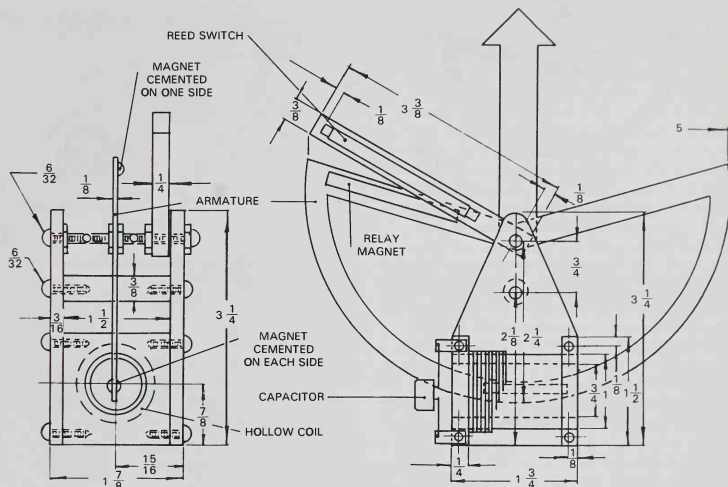

Fig. 18-32. Dimensions of wig-wag motor.
Sliding brushes or contacts could be used, but this one uses a **REED RELAY** which is activated by a small permanent magnet on the swinging pointer. Each time the magnet passes the relay, it closes the coil circuit and pulls the core downward and into the coil. To improve the action of the motor we used permanent magnets for the moving core in the coil. Be sure the polarity is correct. The magnetic field of the coil must attract the magnets. See Fig. 18-32 for the dimensions.
9. The general outline for the armature is sketched in Figs. 18-32 and 18-33.